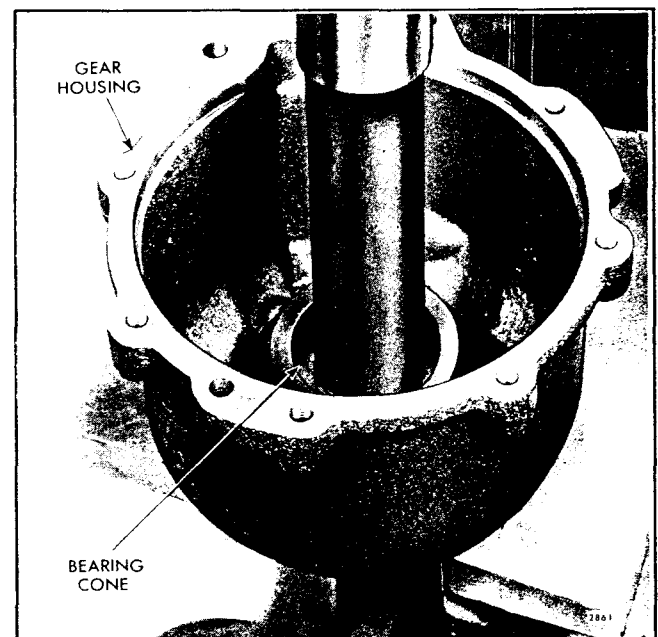

Fig. 41 - Removing Reduction Gear Drive Shaft Roller Bearing Cone and Cup from Gear Housing (2.1:1 Ratio)
d. Place a 2-1/4" round steel bar on top of the inner bearing cone, inside the reduction gear housing, and under the ram of the press as shown in Fig. 41.